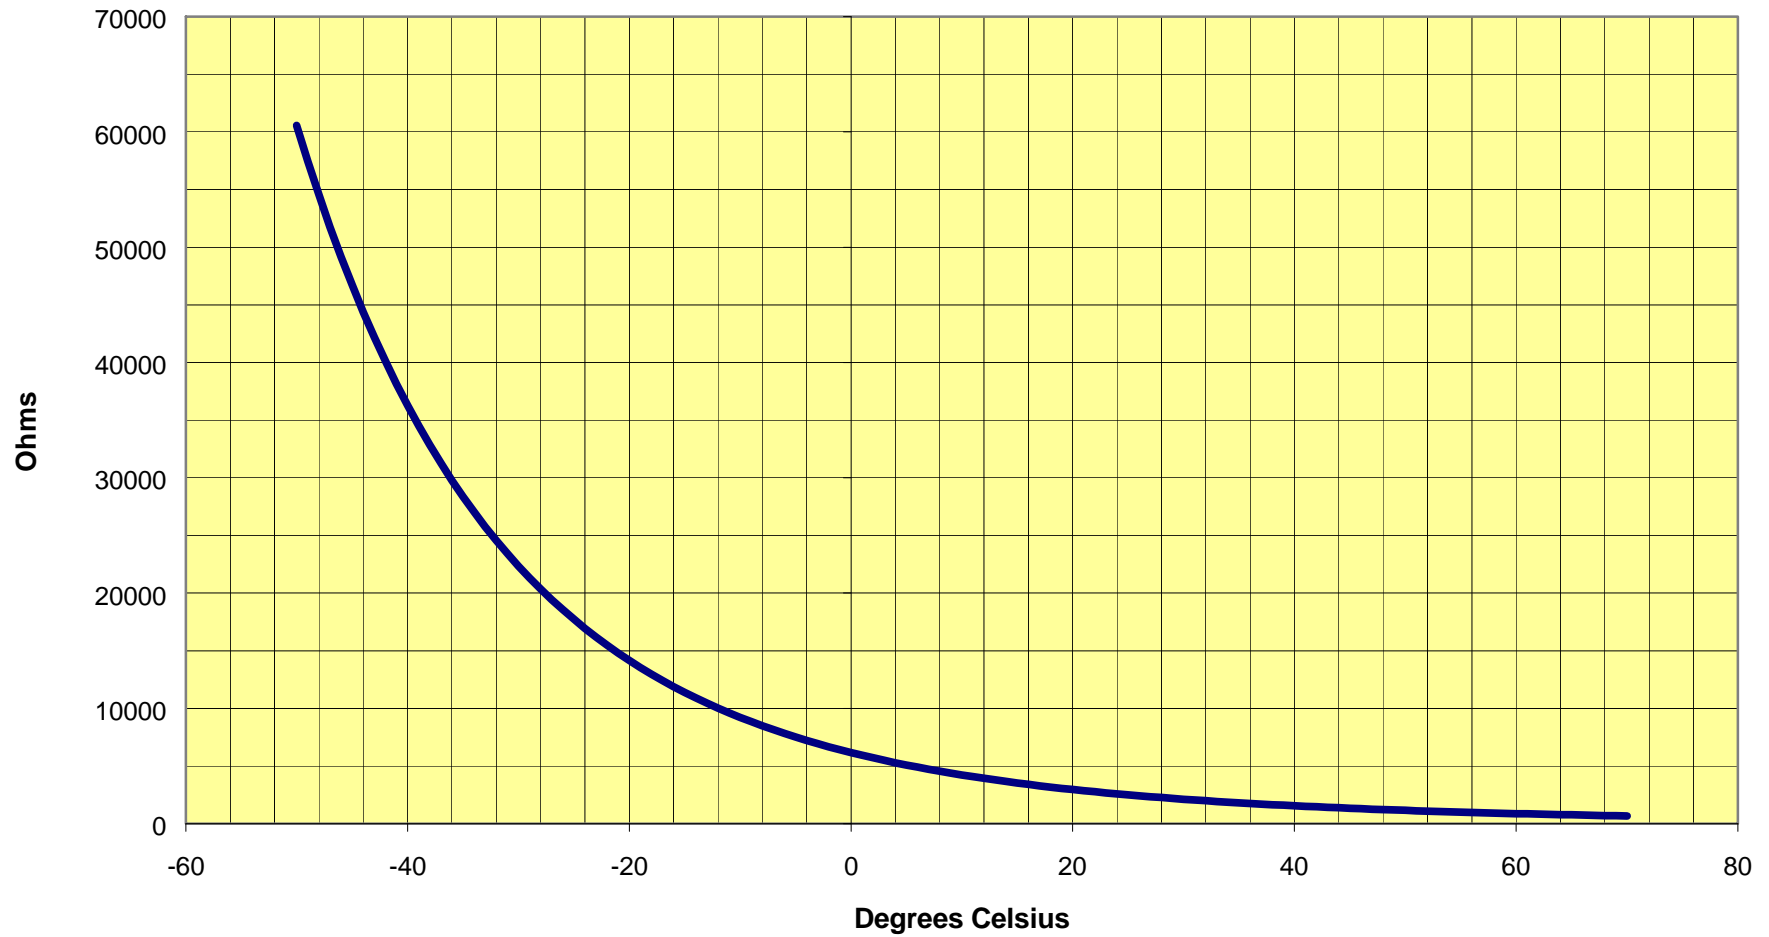
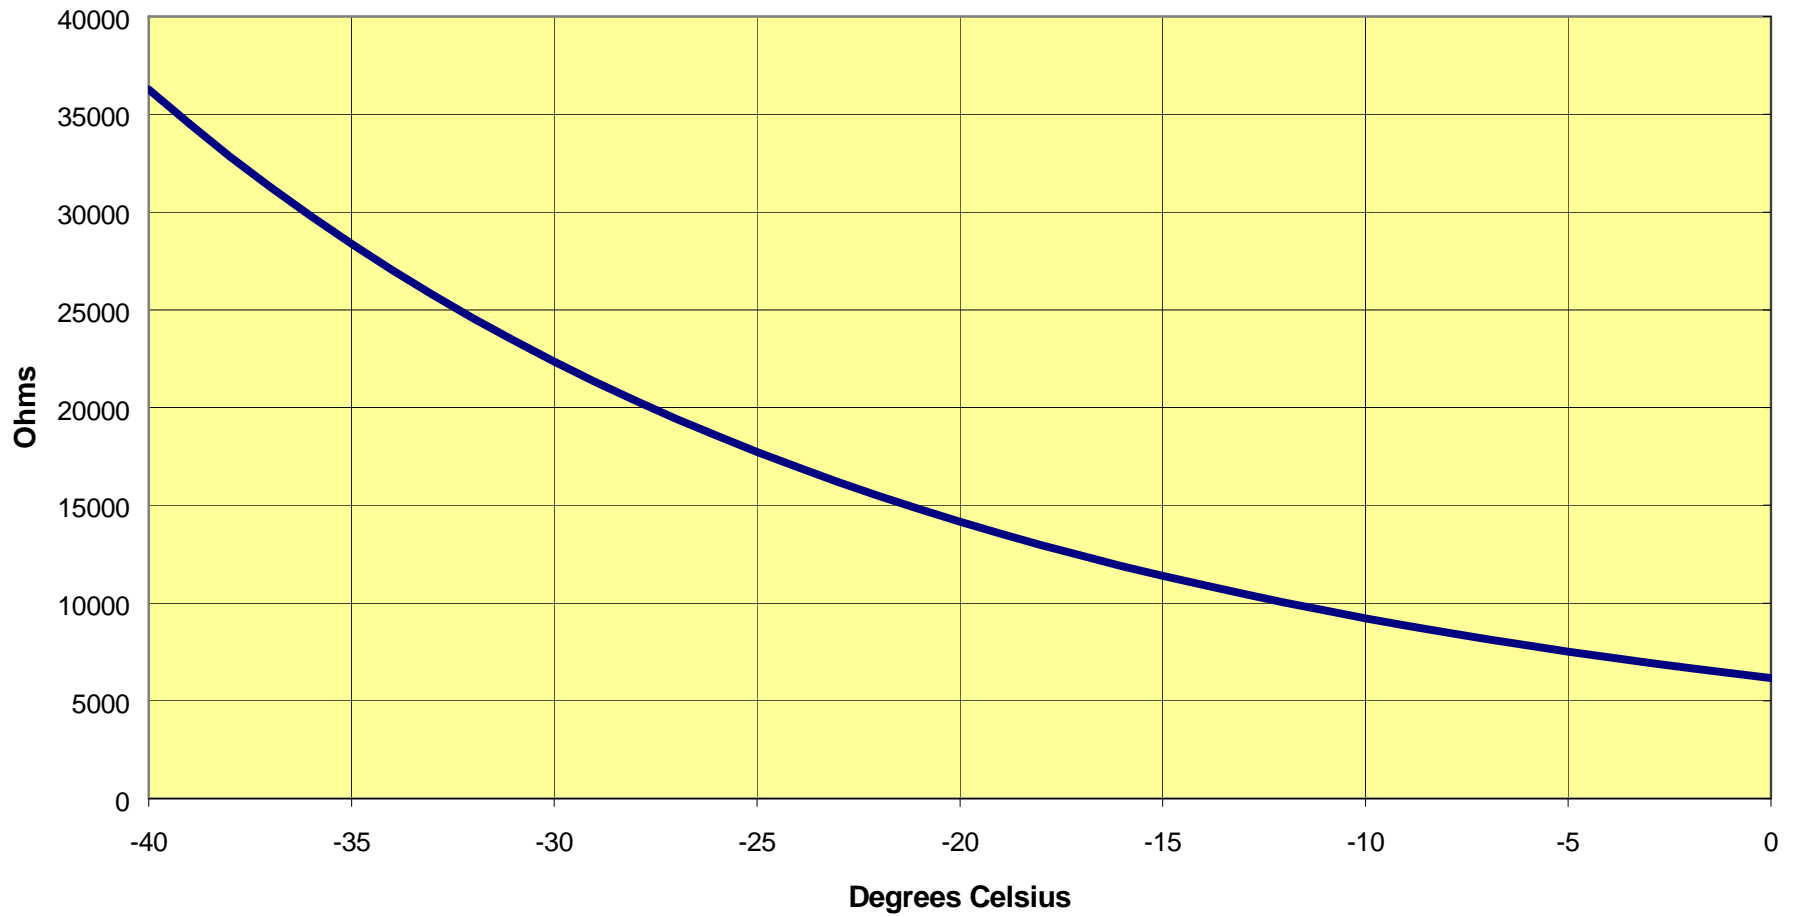

Figure 13. Thermistor resistance vs. temperature, -60° to +70°C
Figure 14. Thermistor resistance vs. temperature, -40° to 0°C
- 1) Measure the thermistor resistance directly using an ohmmeter connected to the “Temperature Excitation” and “Temperature Out” wires, and then convert this resistance to temperature. This conversion may be done with the help of Figures 13, 14 and 15. Figure 13 graphs thermistor resistance vs. the full temperature range of -50° to $+70^{\circ}\text{C}$. Figures 14 and 15 are enlargements of the regions below and above 0°C .
As shown by equation 3, the input voltage can vary during your measurements. What is important, however, is that the ratio of the input voltage to the output voltage, V_{in}/V_{out} , be accurately known. Once you have obtained the value of RT3 from equation 3, use Figures 13, 14 and 15 or equation 1 to obtain the internal tiltmeter temperature.